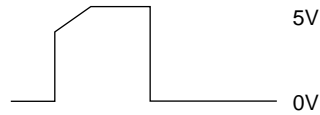

Figure C-3-2
• Yes Is a RST signal in Q3 is as specified in Figure C-3-2?